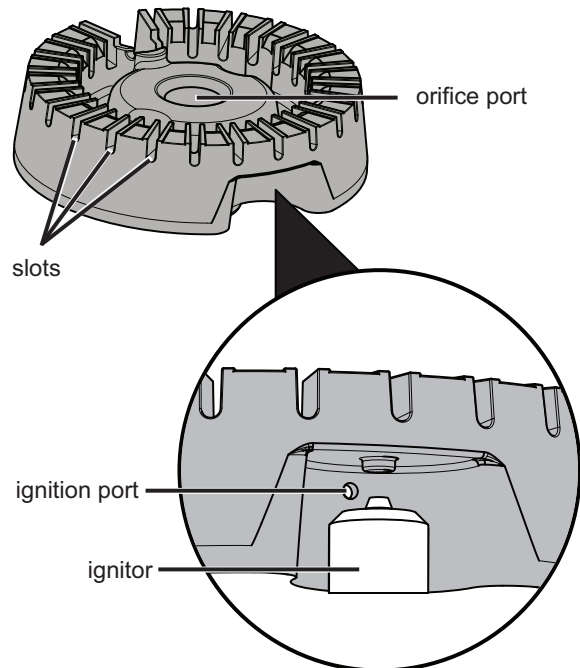

Figure 19: Sealed burner components
3. Use a toothbrush to clean all over the burner head (see Figure 19).
4. Use the toothbrush to clean the slots and holes in the burner (see Figure 19).
5. Use a needle or fine wire to clean out the ignition port (see Figure 19).